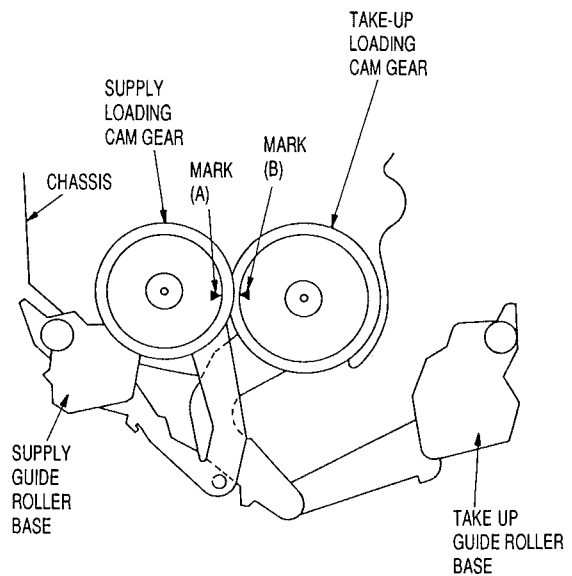

Fig. 3-26
- 1) Align mark (A) on the supply loading cam gear and mark (B) on the take-up loading cam gear when reinstalling them. Check that the supply and take-up guide roller bases are in the unloading (stop) state (as shown in Fig. 3-26).